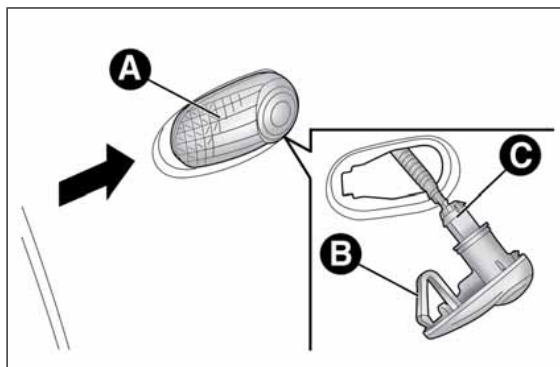

fig. 136
- operate lens A fig. 136 in order to compress clip B, then pull the unit outwards;